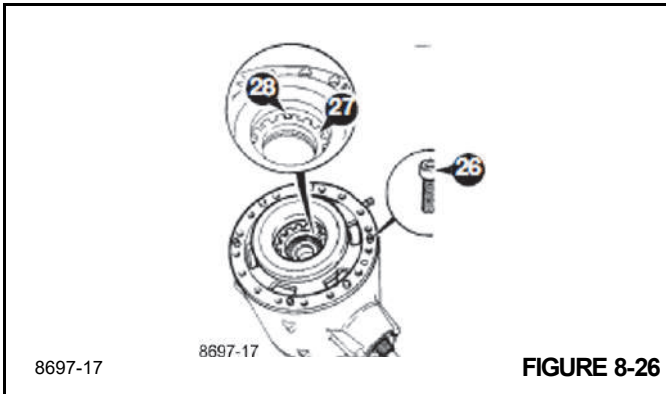

FIGURE 8-26
26. Apply Loctite 574 to the drive head mating face, then fit the brake piston housing. Ensure that the match - marks made during dismantling are aligned. Fit capscrews (Figure 8-26). Torque - tighten to 56 Nm (42 lb-ft). (Applies to both piston housings.)